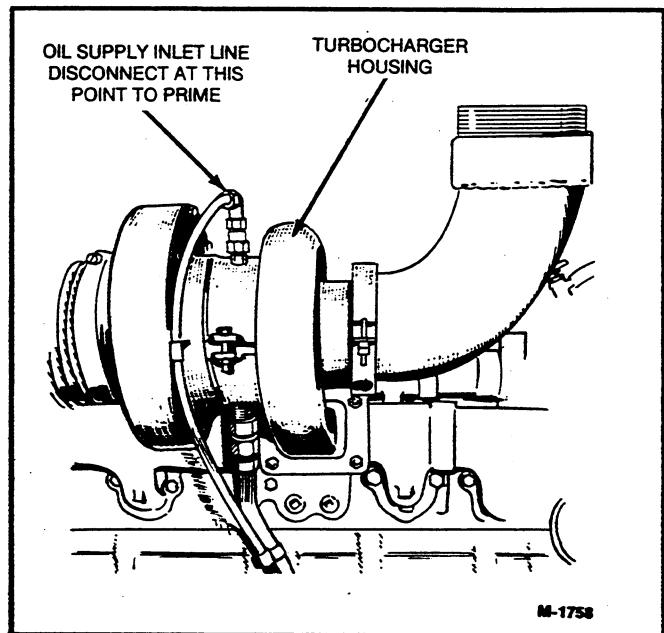

FIGURE 6-2. PRIMING TURBOCHARGER
1. Remove oil inlet line from turbocharger housing (Figure 6-2), fill bearing housing with clean engine lubricating oil; replace line and secure.